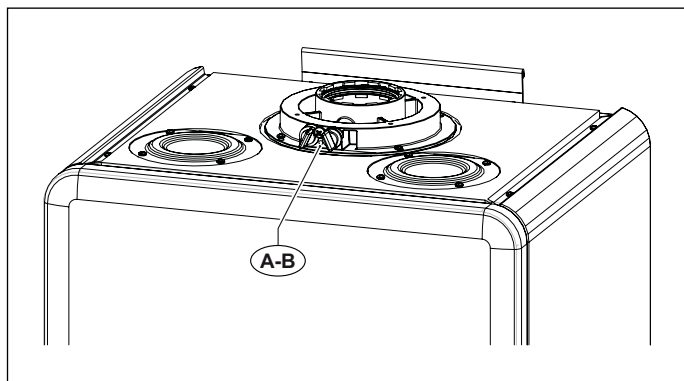
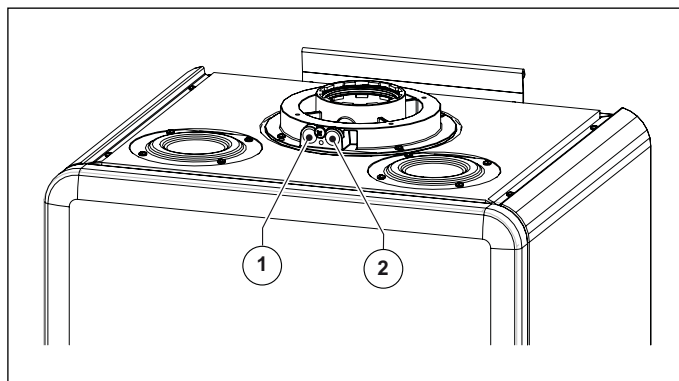

Fig. 19 Caps position
Fig. 20 Hole position
The boiler is equipped with a tower allowing for air intake/flue gas venting pipe connection (see Fig. 19 Caps position and Fig. 20 Hole position).
The tower is designed with two pre-arranged openings directly accessing air and flue gas ducts (see Fig. 20 Hole position).
Remove caps **A** and **B** from the pre-arranged openings on the tower, before taking the measurements (see. Fig. 19 Caps position).
- assess combustion air from opening **1** (see Fig. 20 Hole position).
- assess flue gas and CO2 temperature from opening **2** (see Fig. 20 Hole position).